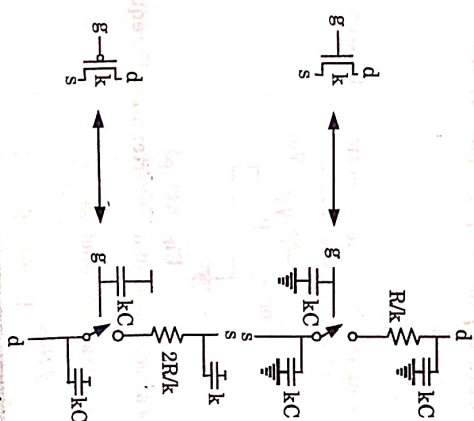

Fig. 2.10.1. Equivalent circuits of transistors.
1. Fig. 2.10.1 shows equivalent RC circuit models for nMOS and pMOS transistors of width k with contacted diffusion on both source and drain.